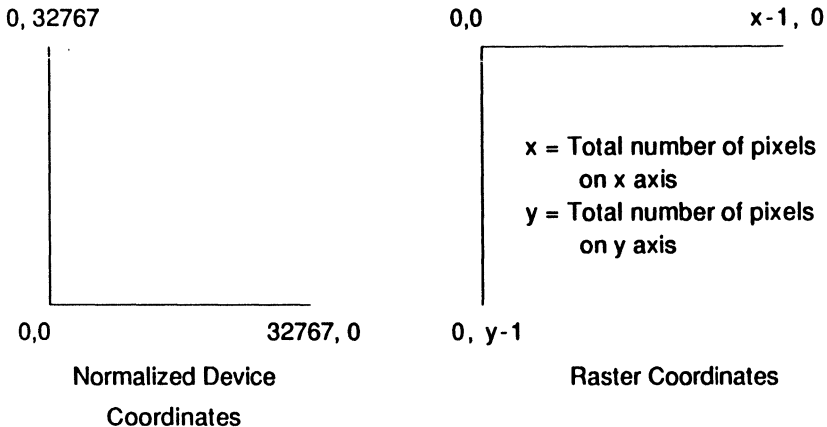

Figure 1-1. Normalized Device Versus Raster Coordinates
Raster Coordinates (RC) are actual device units (for example, pixels for screens and steps for plotters and printers). Unlike the NDC system, RC system coordinates begin in the upper left corner; the lower right corner (x_{max}, y_{max}) addresses the bottom right pixel of the space. Figure 1-1 shows a comparison of the NDC and RC systems.